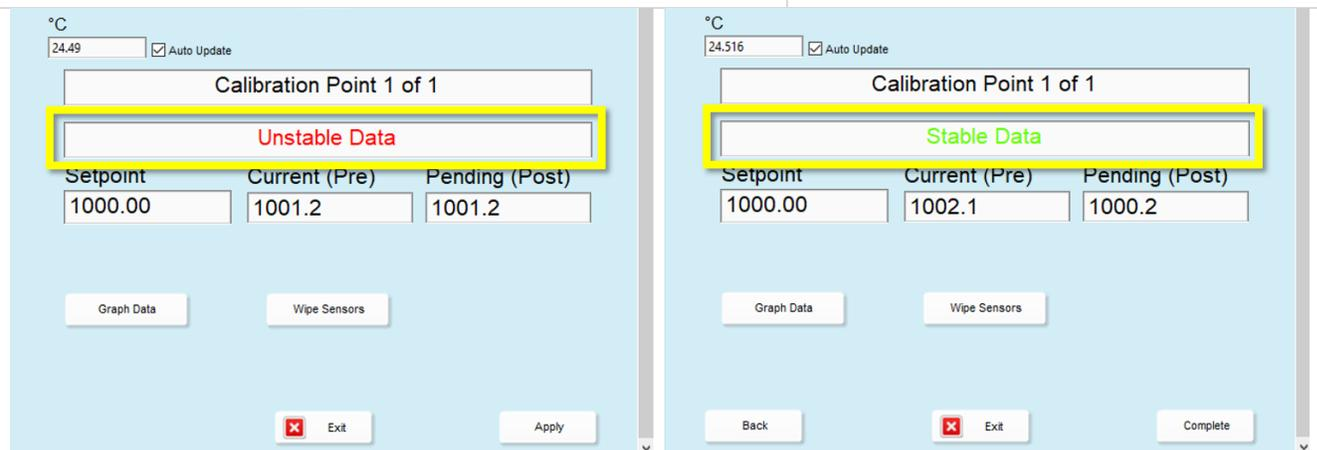

Figure 99. Conductivity Calibration: Unstable and Stable Data - Accept Stable Data by Selecting **“Apply”**, then **“Complete”**
**STEP 3 |** Observe the pre calibration value readings and the data stability. When the calibration window states **“Stable Data”**, click **“Apply”** in the bottom right of the **Device Calibration** window to accept this calibration point, and then click **“Complete”** (Figure 99). *If you encountered an override pop-up window after clicking “Complete”, see Section 5.4.2.10.*